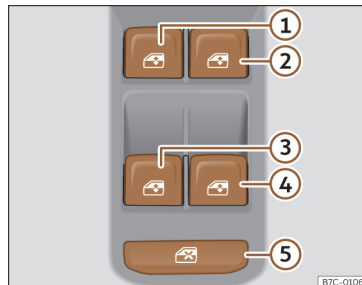

Fig. 92 Detail of the driver's door: window controls.
The safety control »» **Fig. 92** ⑤ on the driver door can be used to disable the electric window buttons on the rear doors.